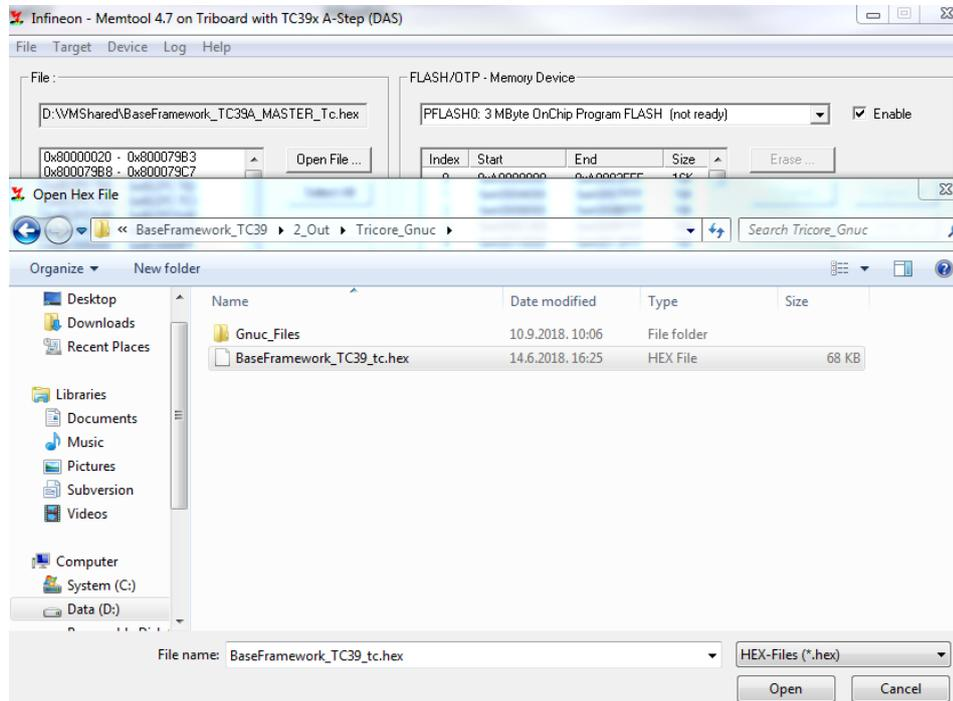

Figure 9: Selecting Programming File
11. After step 9, user selects the generated BIFACES .hex file (Figure 9):